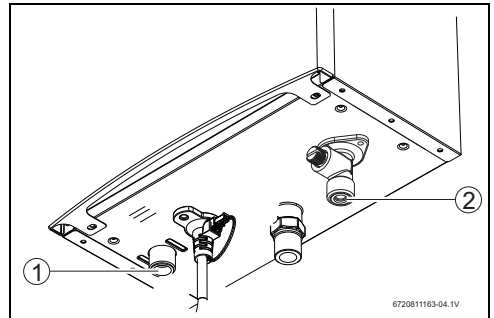

Fig. 13 Water connection
- ▶ Complete the cold (fig. 13. [2]) and hot (fig. 13, [1]) water connections, using the connection accessories supplied or recommended.